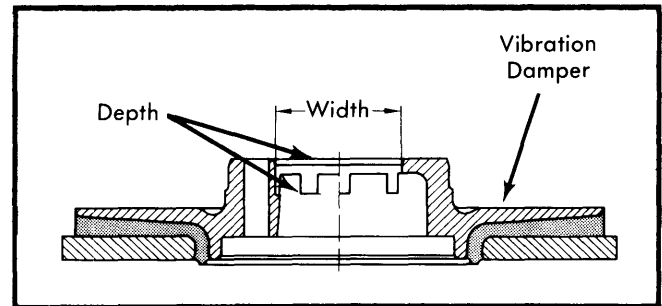

Fig. 7 Instructions for Reboring Vibration Damper
5) To install collar screw with spring washers on vehicles equipped with the old vibration damper and conical sleeve, either install a new vibration damper (617 030 01 03) or bore out old damper to accept spring washers. See Fig. 7 for dimensions when reboring damper.